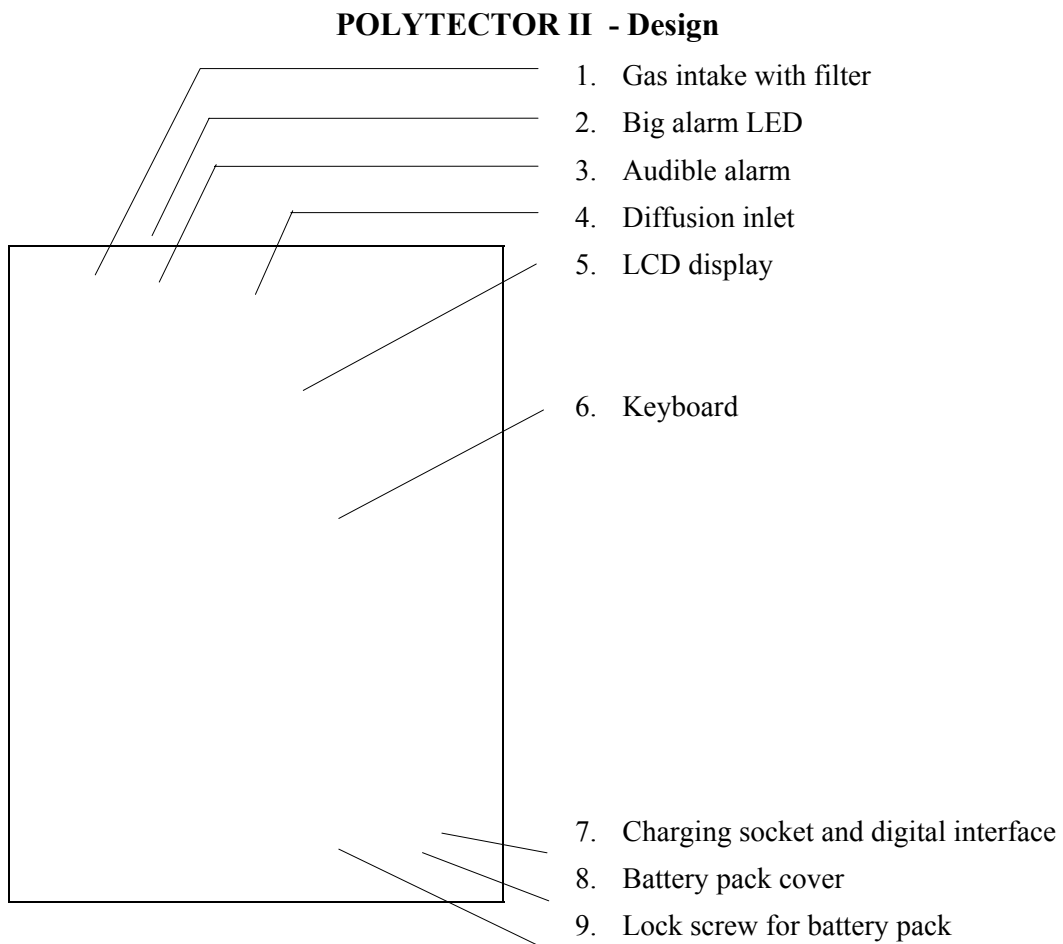

Fig. 1
The POLYTECTOR II (fig. 1) is protected by an impact-proof compound casing. Operation and service is controlled by the keyboard (pos. 6). In the detection mode the big display (pos. 5) shows all measured components either simultaneously or in magnified letters. The gas is usually supplied to the sensor chamber through the diffusion inlet (pos. 4). When the pump is activated, the gas enters the sensor chamber through the pump inlet (pos. 1), to which you can also fix a sampling line. The big red alarm LED (pos. 2) gives a visual warning. The audible alarm is signaled by a buzzer, protected by a wiremesh (pos. 3). The charging socket (pos. 7) for the battery pack is at the bottom of the casing. The battery pack is placed behind a cover (pos. 8), which is fixed with a lock screw (pos. 9).